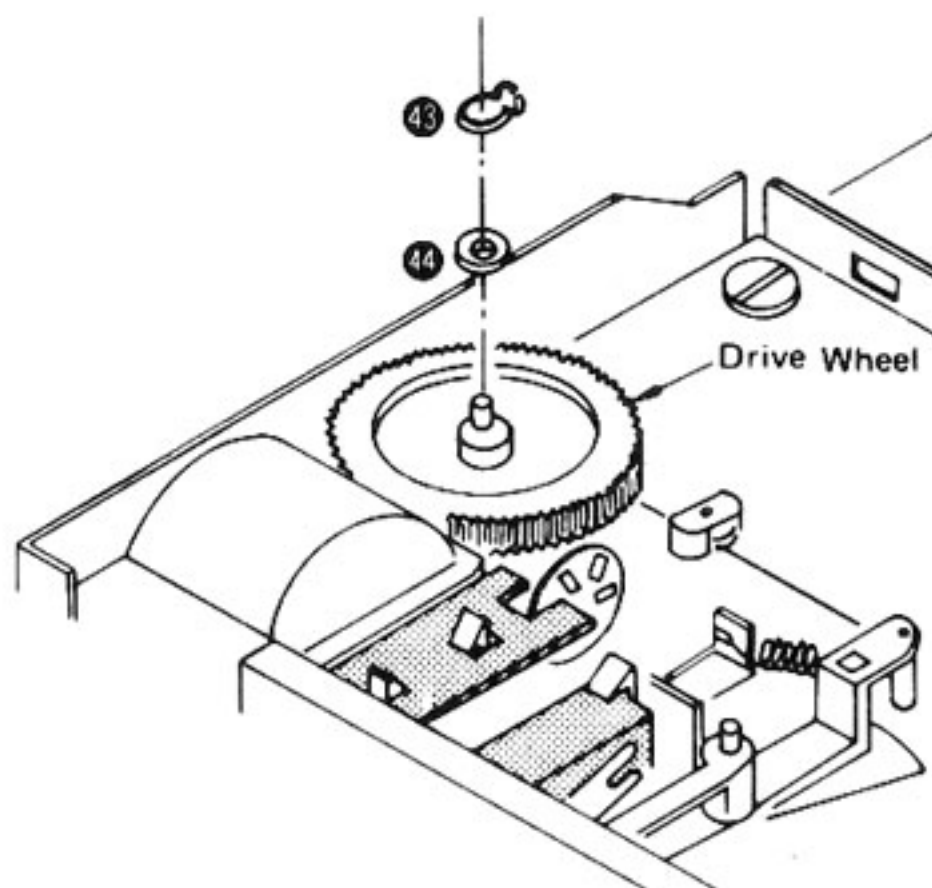

Fig. 15
3. Detach the arm drive wheel "C" ring (43) and washer (44), and remove the drive wheel. (See Fig. 15)